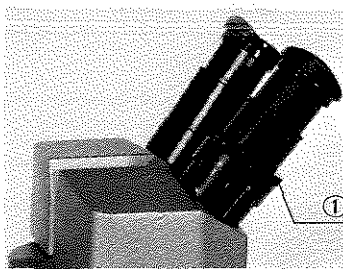

Fig. 4
- b) Look at the image through the left eyepiece with your left eye, and rotate the diopter adjustment ring ① to focus on the specimen, without using the focusing knobs. (Fig. 4)